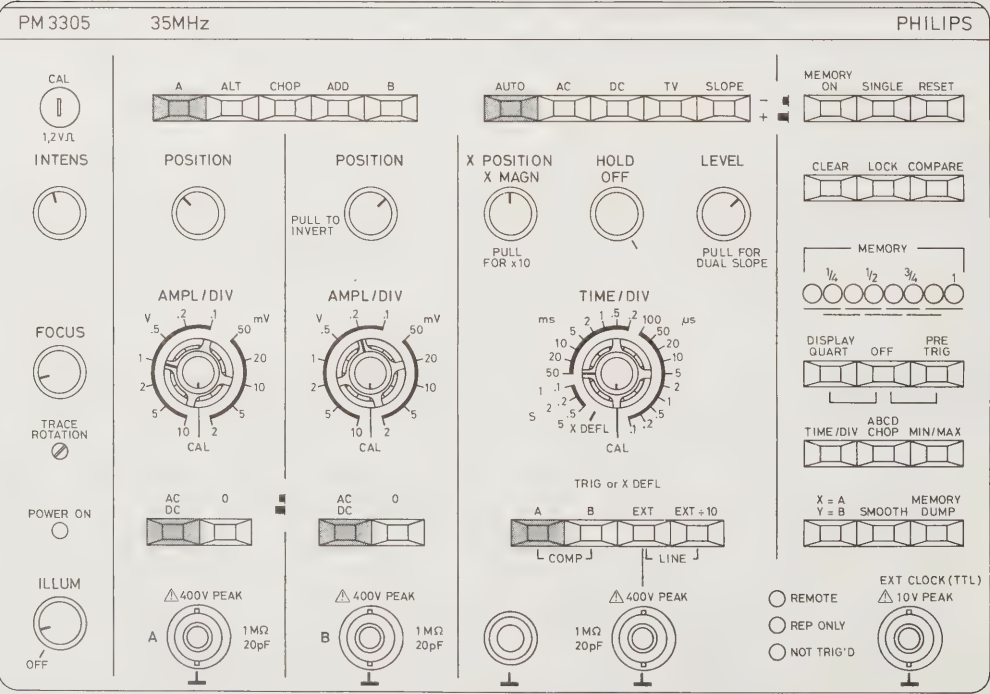

Fig. 5.1. Preliminary settings
- Depress the pushbuttons as indicated in the Fig. 5.1. below.